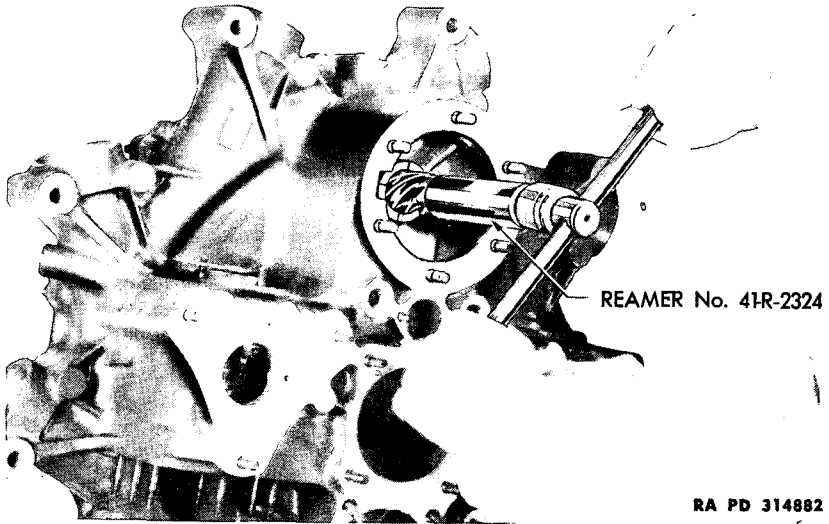

Figure 155 – Line Reaming Starter Shaft Bushings
(1) If bushing in diffuser section is replaced, replace corresponding bushing in rear crankcase section.
(4) **REAM BUSHINGS.** Assemble diffuser section to rear crankcase section. Mount sections in vise, and install alining fixture supports (41-F-2987-210) in crankcase sections. Install reamer and alining bar (41-R-2324) through bushing holes, and install alining fixture supports through starter gear opening in rear crankcase section (fig. 155). Line ream bushings to limits specified (subpar. a above). Remove reamer, alining bar, and support fixtures.